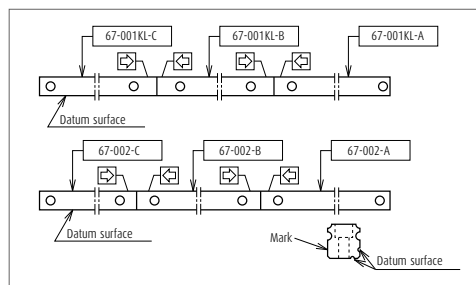

Fig. 10.25
- › The rails with butting specification are marked with alphabet (A, B, C ...) and an arrow on the opposite side of the mounting datum surface. Use the alphabets and arrows for assembly order and direction of the rail (Fig. 10.25). The random-matching rails for butting specification are only marked with the arrows.